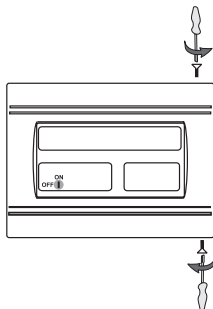

Figure 2.
- Undo the two secure bolts - Figure 2.